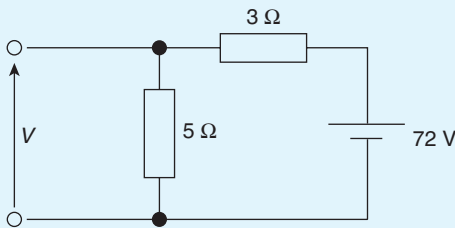

Figure 5.11
- Calculate the value of voltage  $V$  in Fig. 5.11 [45 V]